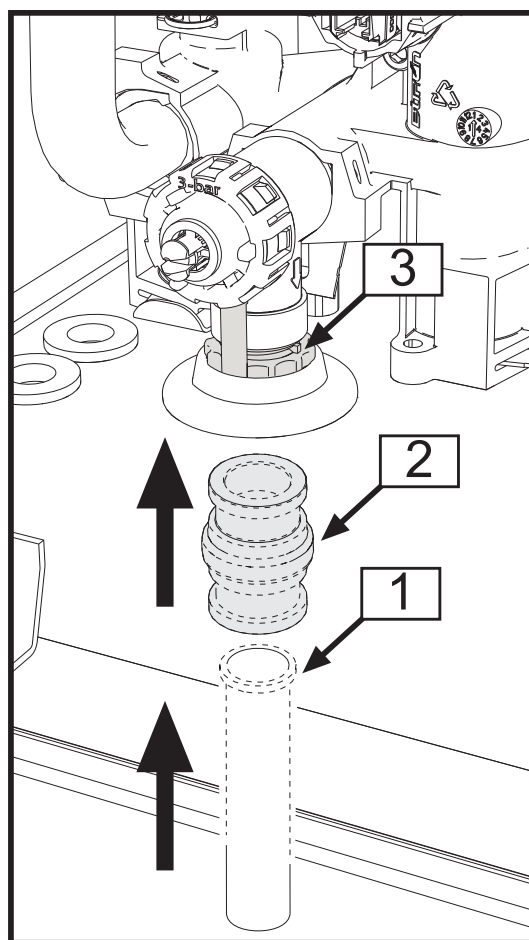

fig. 26
The filling pressure, with system cold, read on the boiler water gauge (detail 2 - fig. 26) must be approx 1.0 bar. If the system pressure falls below minimum values, the boiler stops and fault **F37** is displayed.
To drain the system, turn the ring nut (ref. 3 - fig. 26) counter-clockwise to open the cock. Do not use any tools; use hands only.
To connect the safety valve to a disposal system, install the kit supplied (details 1 and 2 - fig. 26).